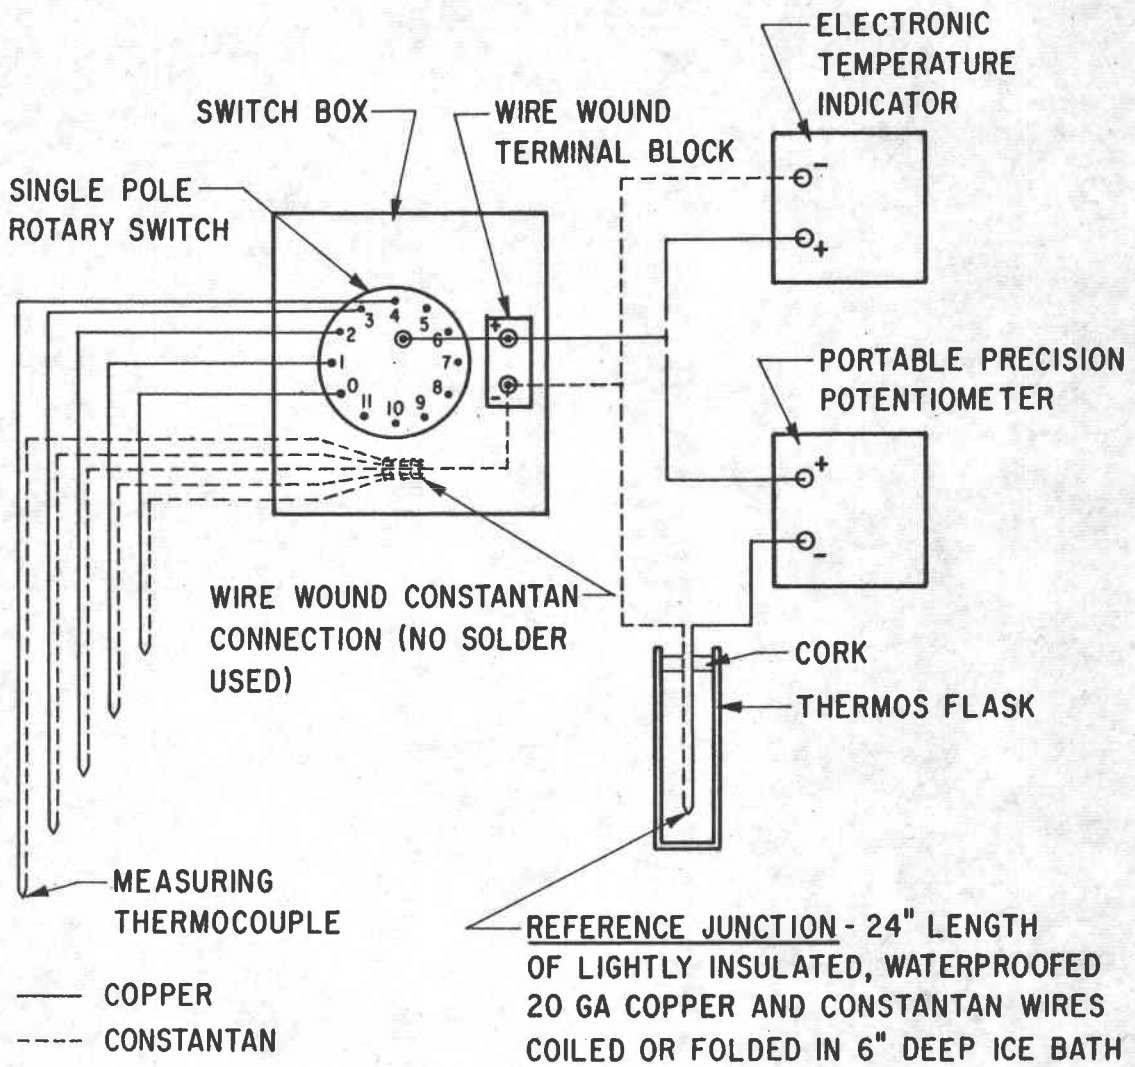

FIGURE 2
i.e. a reference junction, and one of unknown temperature. In the usual thermocouple circuit, when temperatures are measured with a portable potentiometer, the reference junction is immersed in a bath of water and finely crushed ice which will maintain a constant temperature of 32°F. If an electronic temperature indicator is used, the temperature of the reference junction, which is incorporated into the instrument circuit, is compensated for automatically. A diagram showing the complete thermocouple circuit from the ground temperature junction to the reading instrument is given in Figure 2.